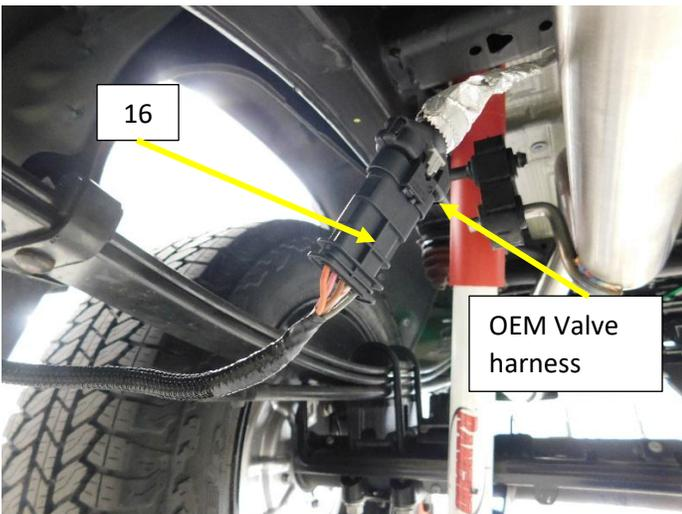

Figure. 20
24. Install the Valve extension harness (16) into the OEM valve harness and lock the latch. **Fig.20**